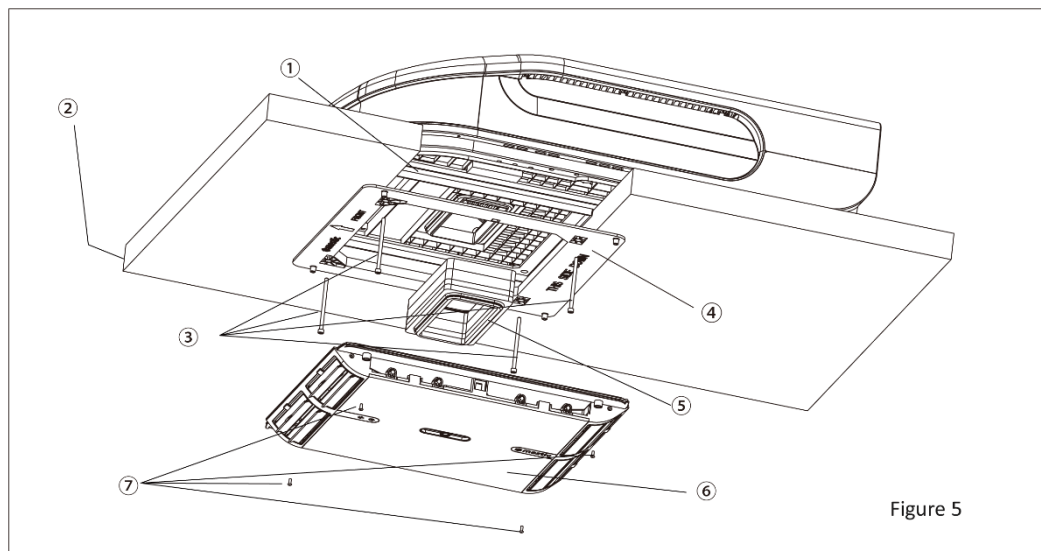

Figure 5
3. The mounting brackets should overlap with the surface of the vehicle ceiling. Tighten the bolts in a cross pattern and make sure the screw holes align with the holes in the adapter. Maximum torque on the bolts (3) is 1,8Nm (See figure 5).
2. Carry the outdoor unit to the vehicle's top and align with the openings on the vehicle's top. Use 2 sets of mounting plate assembly and 4 screw bolts to mount the outdoor unit (See fig. 5).
(See fig.5).